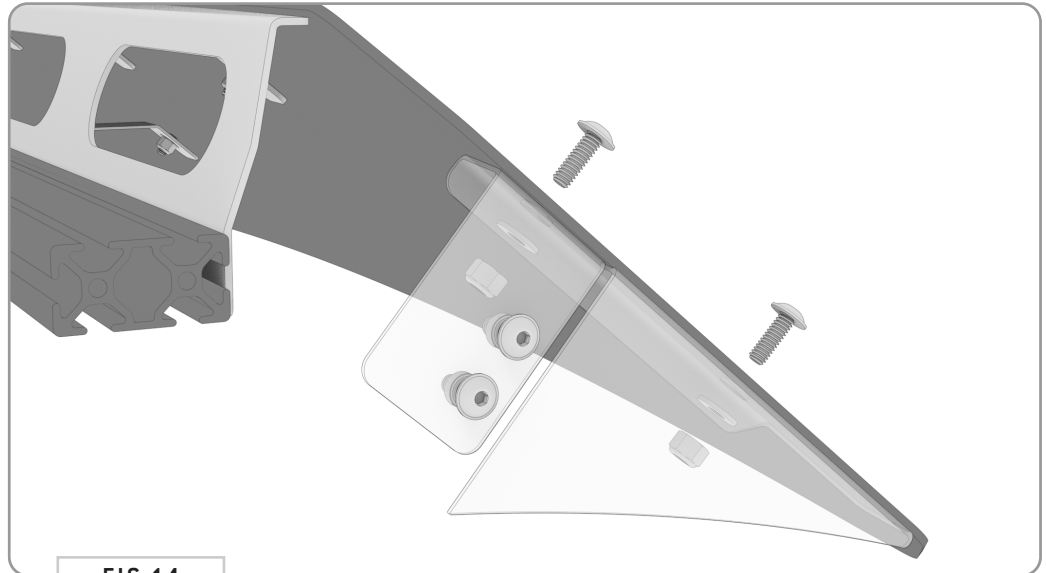

FIG 14
**4.6 Driver and Passenger Side Fairing Brackets:** Attach the Driver and Passenger Side Fairing Brackets to the Assembly using 1/4-20 x 0.75 Flanged Button Head Screws, Flat Washers and Nylon Locknuts (FIG 14).